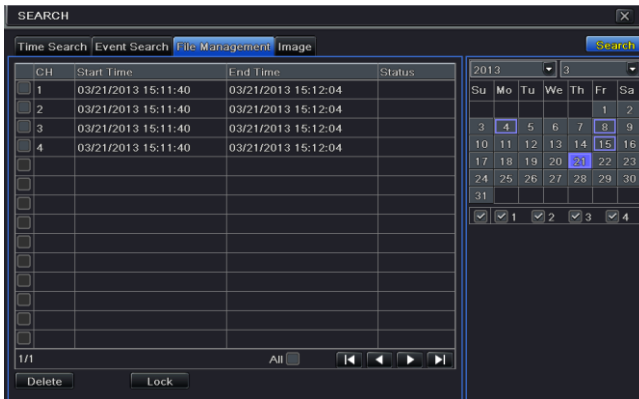

Fig 5-3 Search Configuration-File Management
Step 1: Enter into Menu→Search→File Management interface. Refer to Fig 5-3: